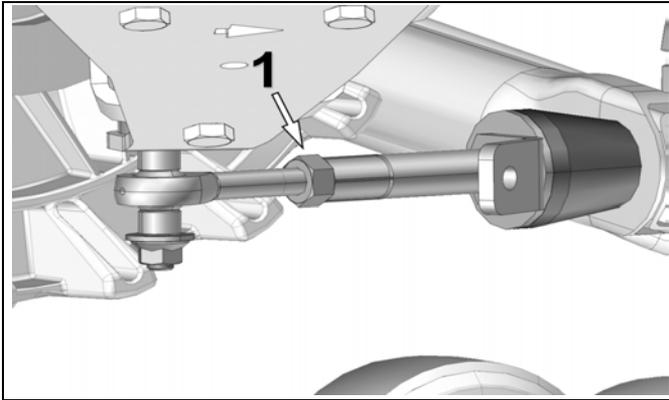

Figure 4
- When angle of attack is correctly set, tighten the jam nut (1) back against the stabilizing arm to 40 N•m [30lb•ft] of torque. See Figure 4.